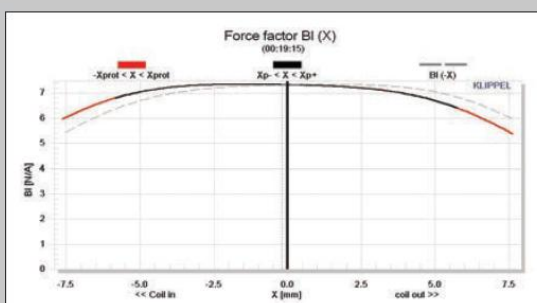

Figure 19: This is the Klippel analyzer BI (X) curve for the ScanSpeak 18W/8545-01.
Klippel analysis for the ScanSpeak 6.5" woofer produced the BI(X), Kms(X), BI and Kms symmetry range plots shown in **Figures 19–22**. The BI(X) curve for the 18W (see **Figure 19**) is very broad and symmetrical